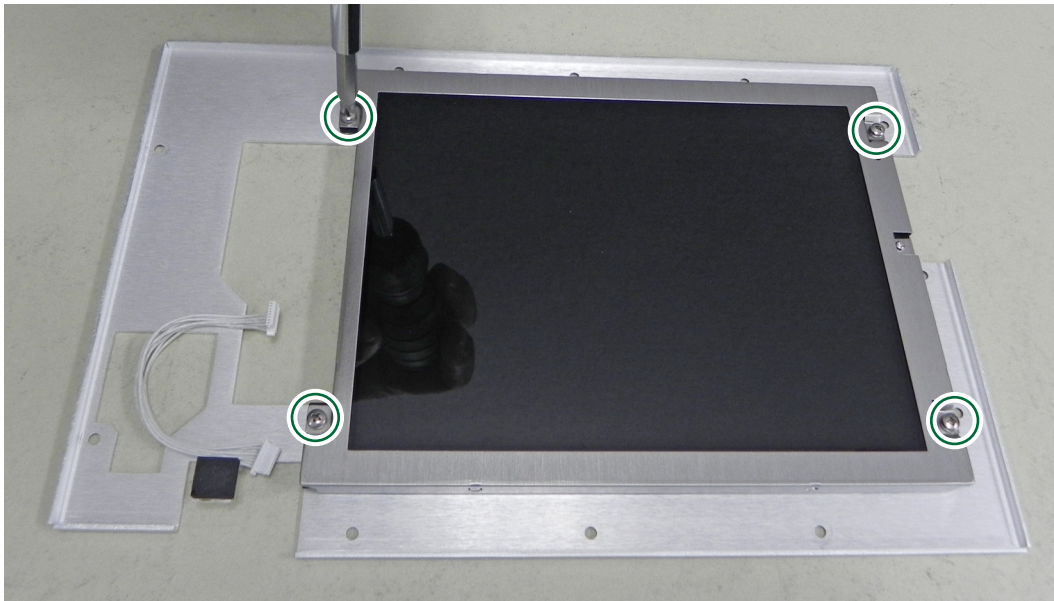

Figure 5-19. Replace LCD
11. Remove the 4 screws holding the LCD Display to the bracket (Figure 5-19).